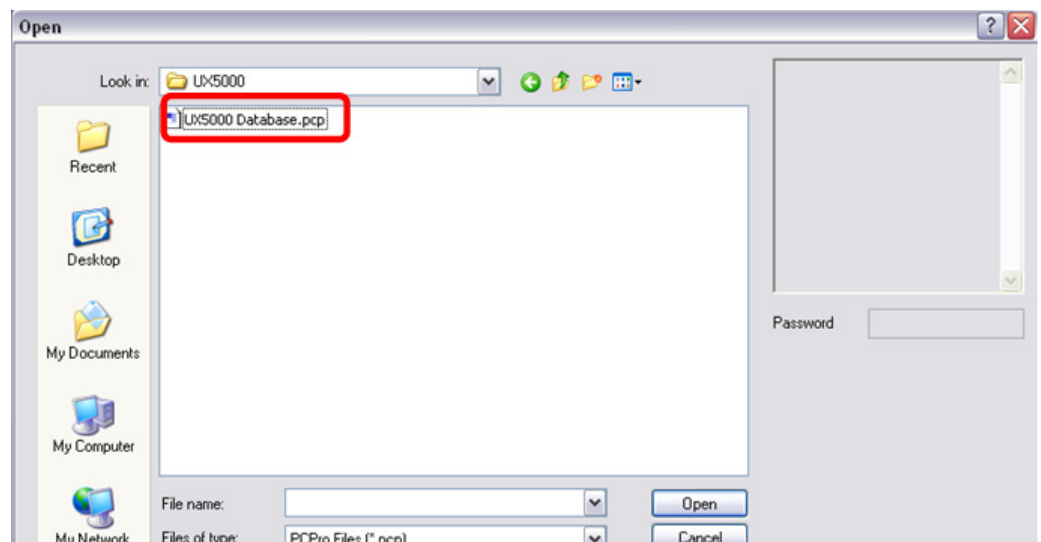
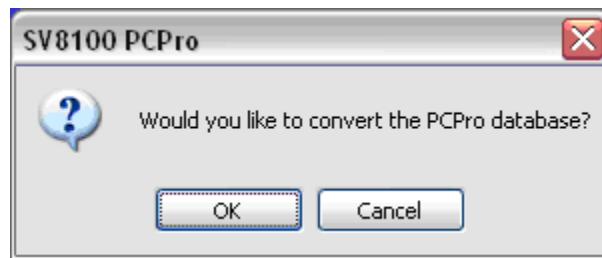

Figure I-4 Open Database
Figure I-5 Database Conversion Confirmation
- Click **Open** on the Open dialog screen, Figure I-4 - Open Database. Figure I-5 - Database Conversion Confirmation appears.